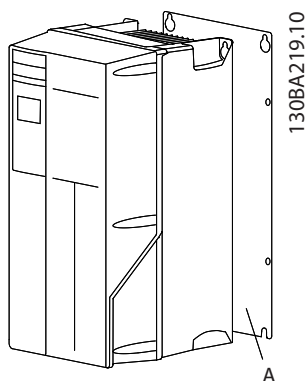
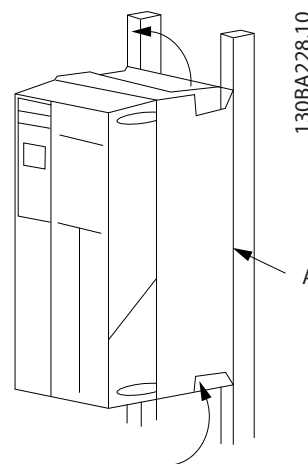

Figure 2.2 Proper Mounting with Backplate
Figure 2.3 Proper Mounting with Railings
- Mount the unit to a solid flat surface or to the optional backplate to provide cooling airflow (see *Figure 2.2* and *Figure 2.3*).